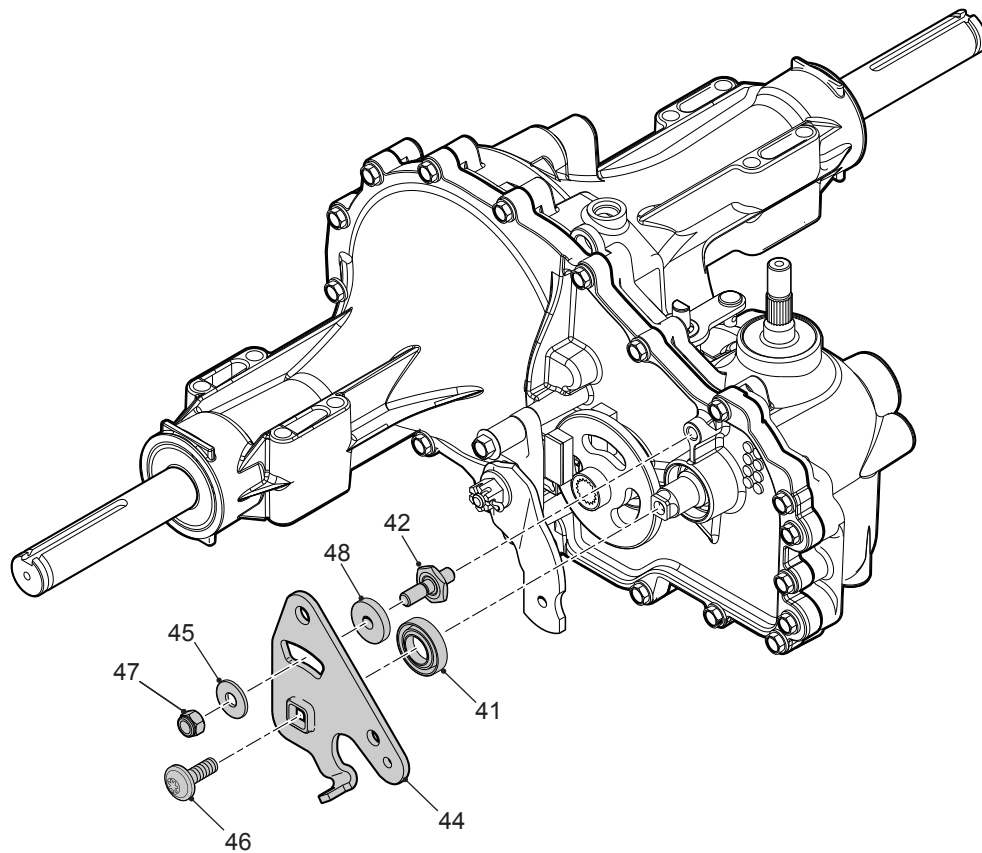

Figure 8, Control Arm Assembly
Refer to Figure 8
1. Remove the brake arm bias spring (185), the cotter pin (182) and loosen the brake castle nut (181). Refer to figure 8.
2. Insert a 0.015" feeler gage between the brake rotor (171) and top brake puck, and then set the brake by finger tightening or loosening the castle nut.